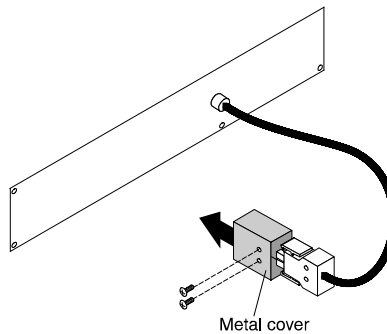

Figure 3. Removing the EBM Power Cord Cover
4. Remove the two screws from the metal cover that protects the end of the new EBM power cord. Remove the metal cover. See Figure 3.